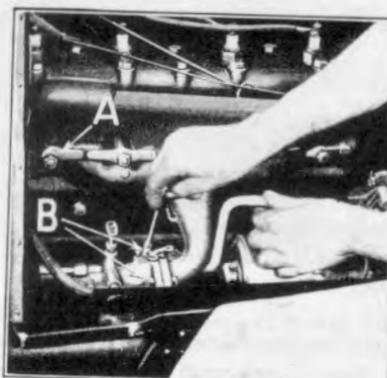

Fig. 426
- 872 Loosen manifold stud nut which holds carburetor hot air pipe to manifold (See "A" Fig. 426) and withdraw hot air pipe from carburetor.
- (c) Insert end of carburetor hot air pipe into carburetor, and tighten the nut which holds hot air pipe to manifold (See "A" Fig. 426).